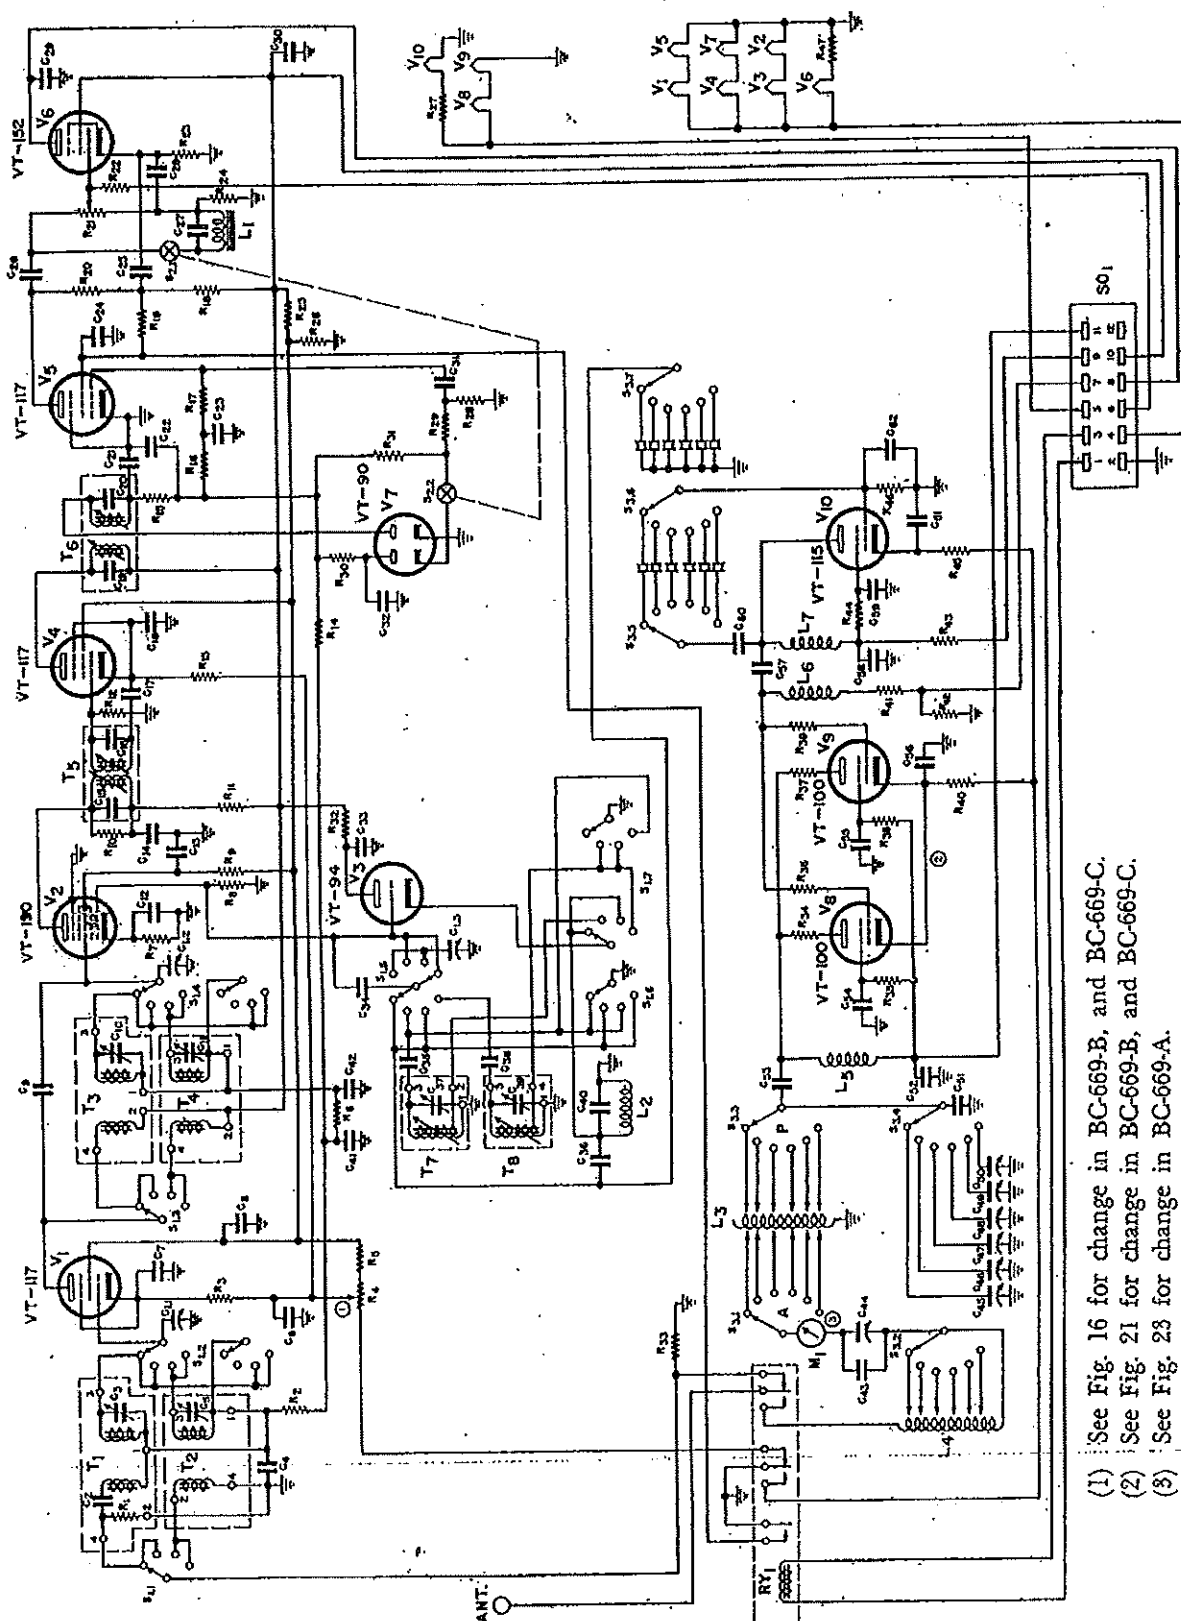

Fig. 17 — Radio Receiver and Transmitter BC-669-A Schematic Diagram of Transmitter and Receiver.
a. *Receiver* — (Refer to figures 17 and 18) Electrically, the receiver consists of radio frequency amplifier tube V_1 , mixer tube V_2 , heterodyne oscillator tube V_3 , intermediate frequency amplifier tube V_4 , second detector, automatic noise limiter and A.V.C. tube V_7 , audio frequency voltage amplifier tube V_5 and audio frequency power amplifier tube V_6 together with their associated circuits.
(1) Radio frequency amplifier tube V_1 is a Tube VT-117 (commercial type 6SK7), the function of which is to amplify signal voltages at radio frequencies and, together with the sharply tuned circuits of r-f transformers T_1 or T_2 , greatly attenuate signals of undesired frequency. (BC-669-B, and BC-669-C use Tube VT-117-A, commercial type 6SK7 GT/G, as V_1 .)
(c) The gain of tube V_1 is controlled by varying its cathode bias by means of variable resistor R_4 , whose movable tap is connected to the cathode through cathode bias resistor R_3 . One end of R_4 is returned to ground through a set of normally closed contacts in relay RY_1 . Capacitor C_6 is connected from the movable tap of R_4 to ground to by-pass any noise produced by R_4 . (See Fig. 17.) The cathode is by-passed by capacitor C_7 .
- (6) Audio frequency voltage amplifier tube V_6 is a Tube VT-117 (commercial type 6SK7), the function of which is to amplify audio voltage supplied by the detector diode of tube V_7 and furnish an audio output voltage, having an amplitude great enough to drive tube V_6 . BC-669-B, and BC-669-C use Tube VT-117-A (commercial type 6SK7-GT/G) as V_6 .
- (7) Audio frequency power amplifier tube V_8 is a Tube VT-152 (commercial type 6K6-GT/G). The function of this tube is to amplify the output of tube V_6 and provide sufficient power to drive loudspeaker LS_1 .
- (d) The plate receives its voltage through the primary of output transformer T_0 , located on the modulator chassis. This connection is made through contact 8 of socket SO_1 and plug PL_1 (see figure 17). The plate is by-passed by capacitor C_{20} .
- (1) Oscillator tube V_{10} is a Tube VT-115 (commercial type 6L6) which has the function of generating oscillations at a radio frequency for providing power to the final stage, and maintaining these oscillations accurately at the desired frequency. (See figure 17.) BC-669-B, and BC-669-C use Tube VT-115-A (commercial type 6L6G) as V_{10} .
- (2) R-F power amplifier tubes V_8 and V_9 are each a Tube VT-100 (commercial type 807). BC-669-B, and BC-669-C use Tube